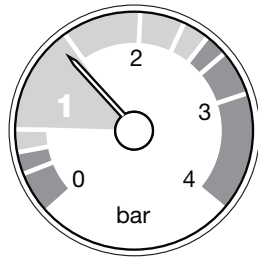
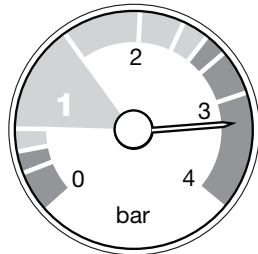

Fig. 4
Fig. 6
1. The normal operating water pressure is between 1 and 2.5 bar (Fig. 4). If the pressure exceeds 3 bar the safety pressure valve will operate and a fault is indicated (Fig. 6). Contact your installer.